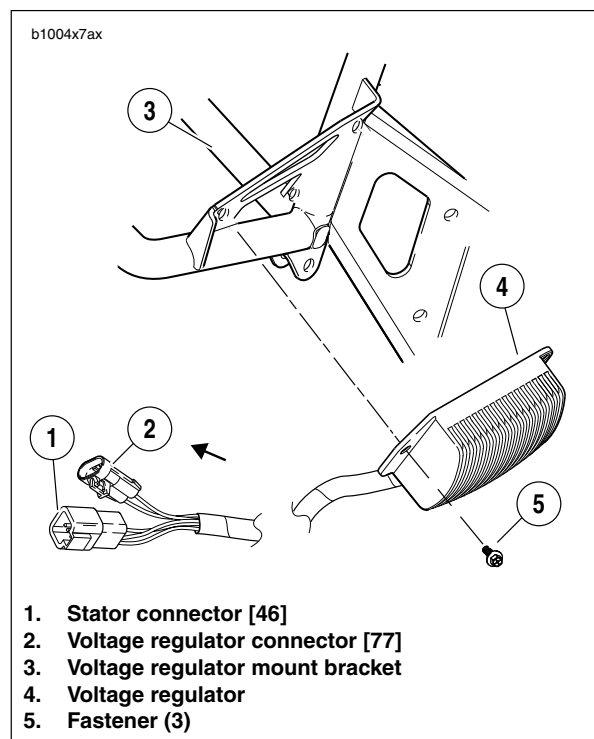

Figure 7-37. Voltage Regulator
3. See Figure 7-37. Disconnect stator connector [46] (1) and voltage regulator connector [77] (2) located under sprocket cover. See 7.25 SPROCKET COVER WIRING.
4. Remove fasteners (5) and voltage regulator (4) from bracket (3).
1. See Figure 7-37. Attach **new** voltage regulator (4) to bracket (3). Tighten fasteners (5) to 60-72in-lbs (6.7-8 Nm).
2. Connect stator connector [46] (1) and voltage regulator connector [77] (2) located under sprocket cover. See 7.25 SPROCKET COVER WIRING.